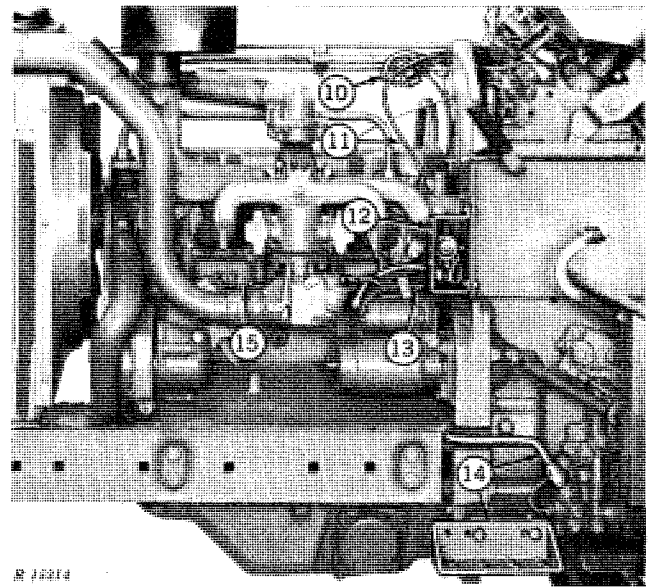

Fig. 6—Separation Procedures on Left-Hand Side
10. Disconnect wiring harness at connectors. Remove wiring bands to hydraulic pipe (Fig. 6).